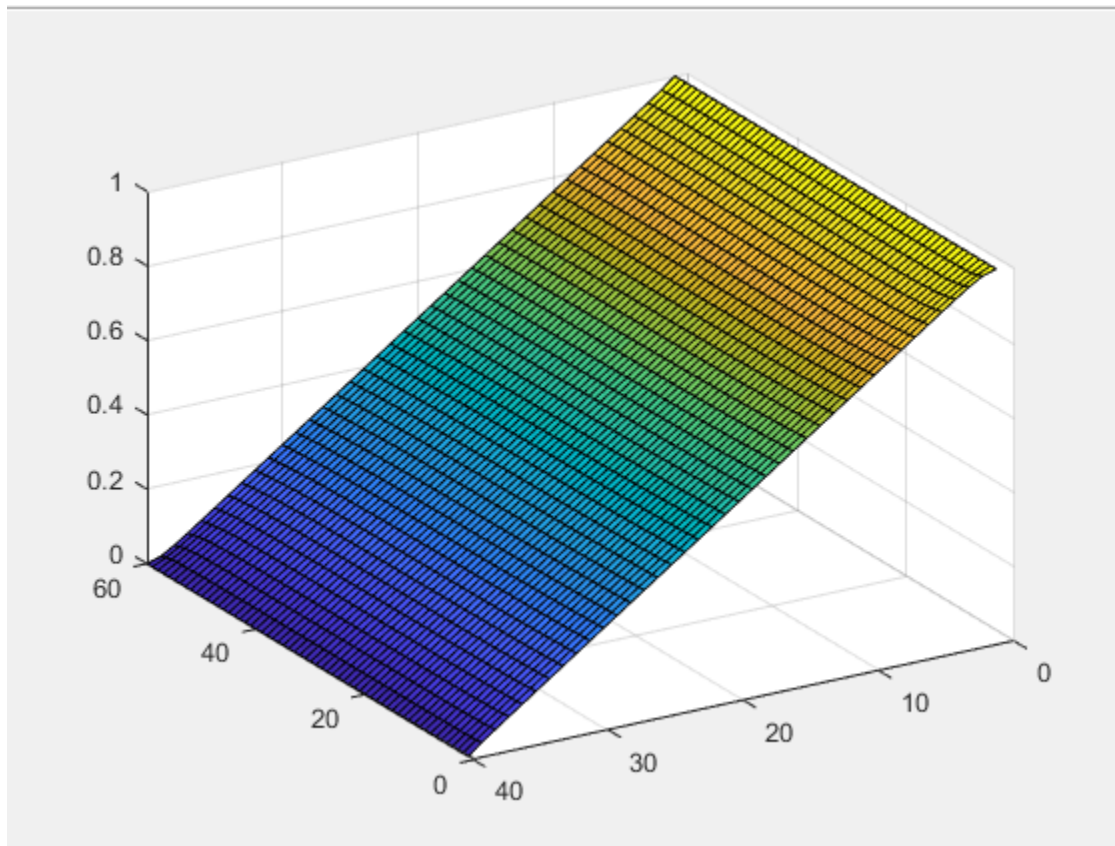

Figure 1: Voltage model for fixed BCs on two sides
- a. In this case, the voltage increased linearly from 0 (at $x = W$) to 1V (at $x = 0$). Figure 1 below shows the modelled voltage: